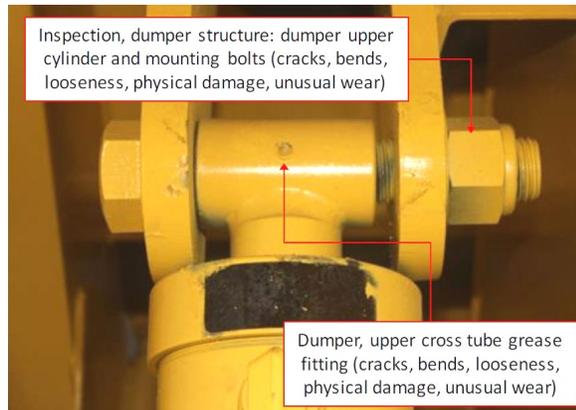

Figure 15. Upper Grease Fitting
5. Does the dumper sit level and flush with the enclosure floor? (Figures 15 & 16)